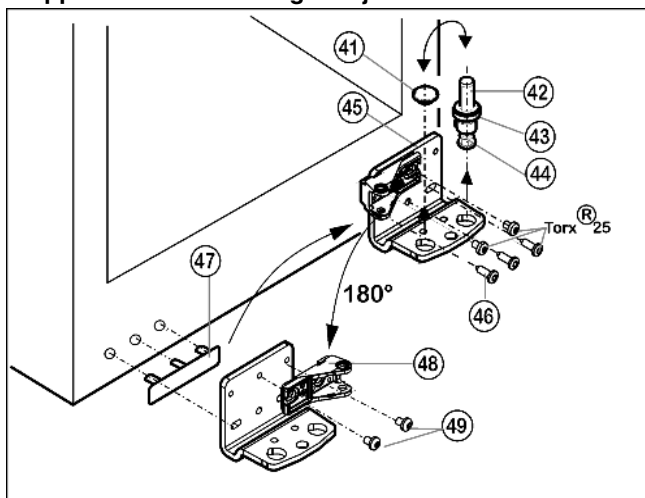

Fig. 12
- Lift out the bearing pin Fig. 12 (42) together with washer Fig. 12 (43) and adjustable-height foot Fig. 12 (44).
- Lift out the stopper Fig. 12 (41).
- Unscrew Fig. 12 (46) the turn hinge Fig. 12 (45).
- Unscrew the bearing element Fig. 12 (48), turn it through 180° and screw it firmly into place again inside
- Carefully lift off the cover on the handle side Fig. 12 (47) and transfer it to the opposite side.
- Screw the bottom turn hinge Fig. 12 (45) firmly into place (with 4 Nm) on the new hinge side, possibly using a cordless screwdriver.
- Re-insert the stopper Fig. 12 (41) into the other hole.
- Re-insert the bearing pin Fig. 12 (42) together with the washer and adjustable-height foot. In so doing, pay attention that the locating lug points backwards